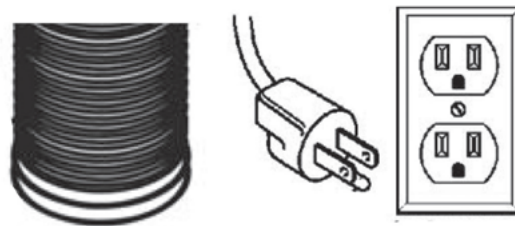

Figure 5
7. The hood comes with a grounded 3-prong plug that must be plugged into a dedicated 15-amp circuit. The cord is 36" (914 mm) long. *Figure 5*